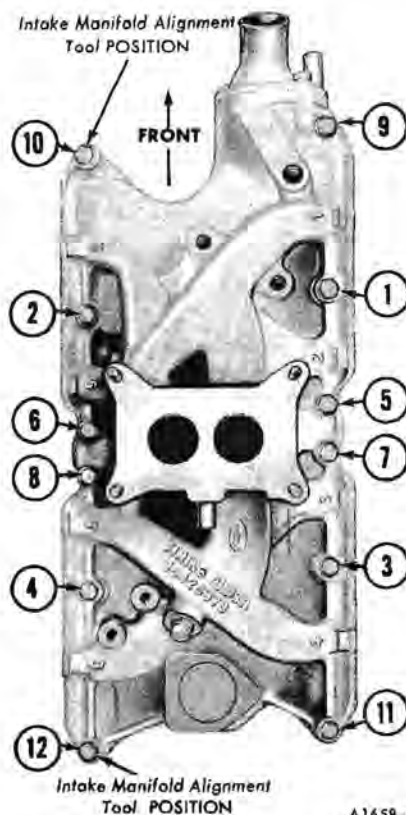

FIG. 21—Intake Manifold Torque Sequence
6. Using new sealing washers, install the intake manifold retaining bolts. Torque the bolts in two steps. First, torque the bolts in sequence (Fig. 21) to 15-17 ft-lbs.